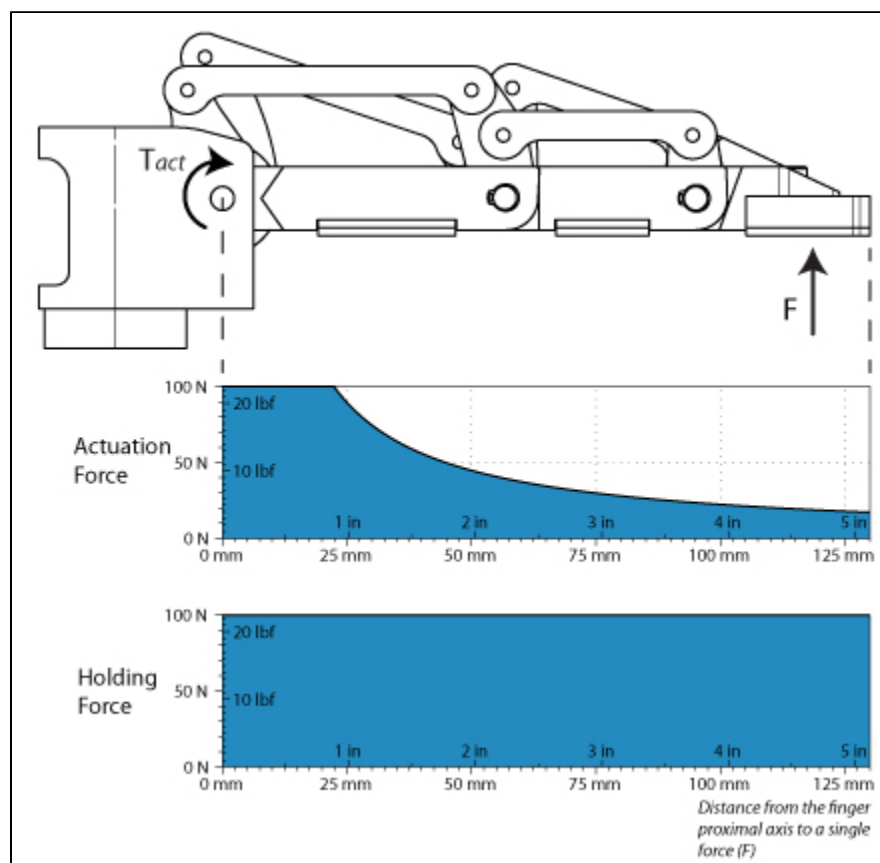

Figure 5.2 – Action and Holding Forces allowed in a single finger.
- Because the gripper is self-locking, the Break Away Force is higher than the Actuation Force (see Figure 5.2).